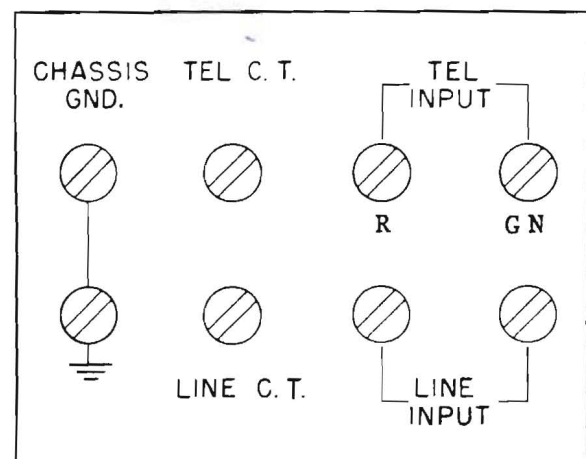

FIG. 4. Input Terminal Strip
To record from a telephone, connect signal to terminals marked TEL-INPUT(R)(GN) on terminal strip (S), found in rear of tape recorder (refer to Figure 4). Then, follow instructions outlined in paragraph above to properly set up tape recorder controls.